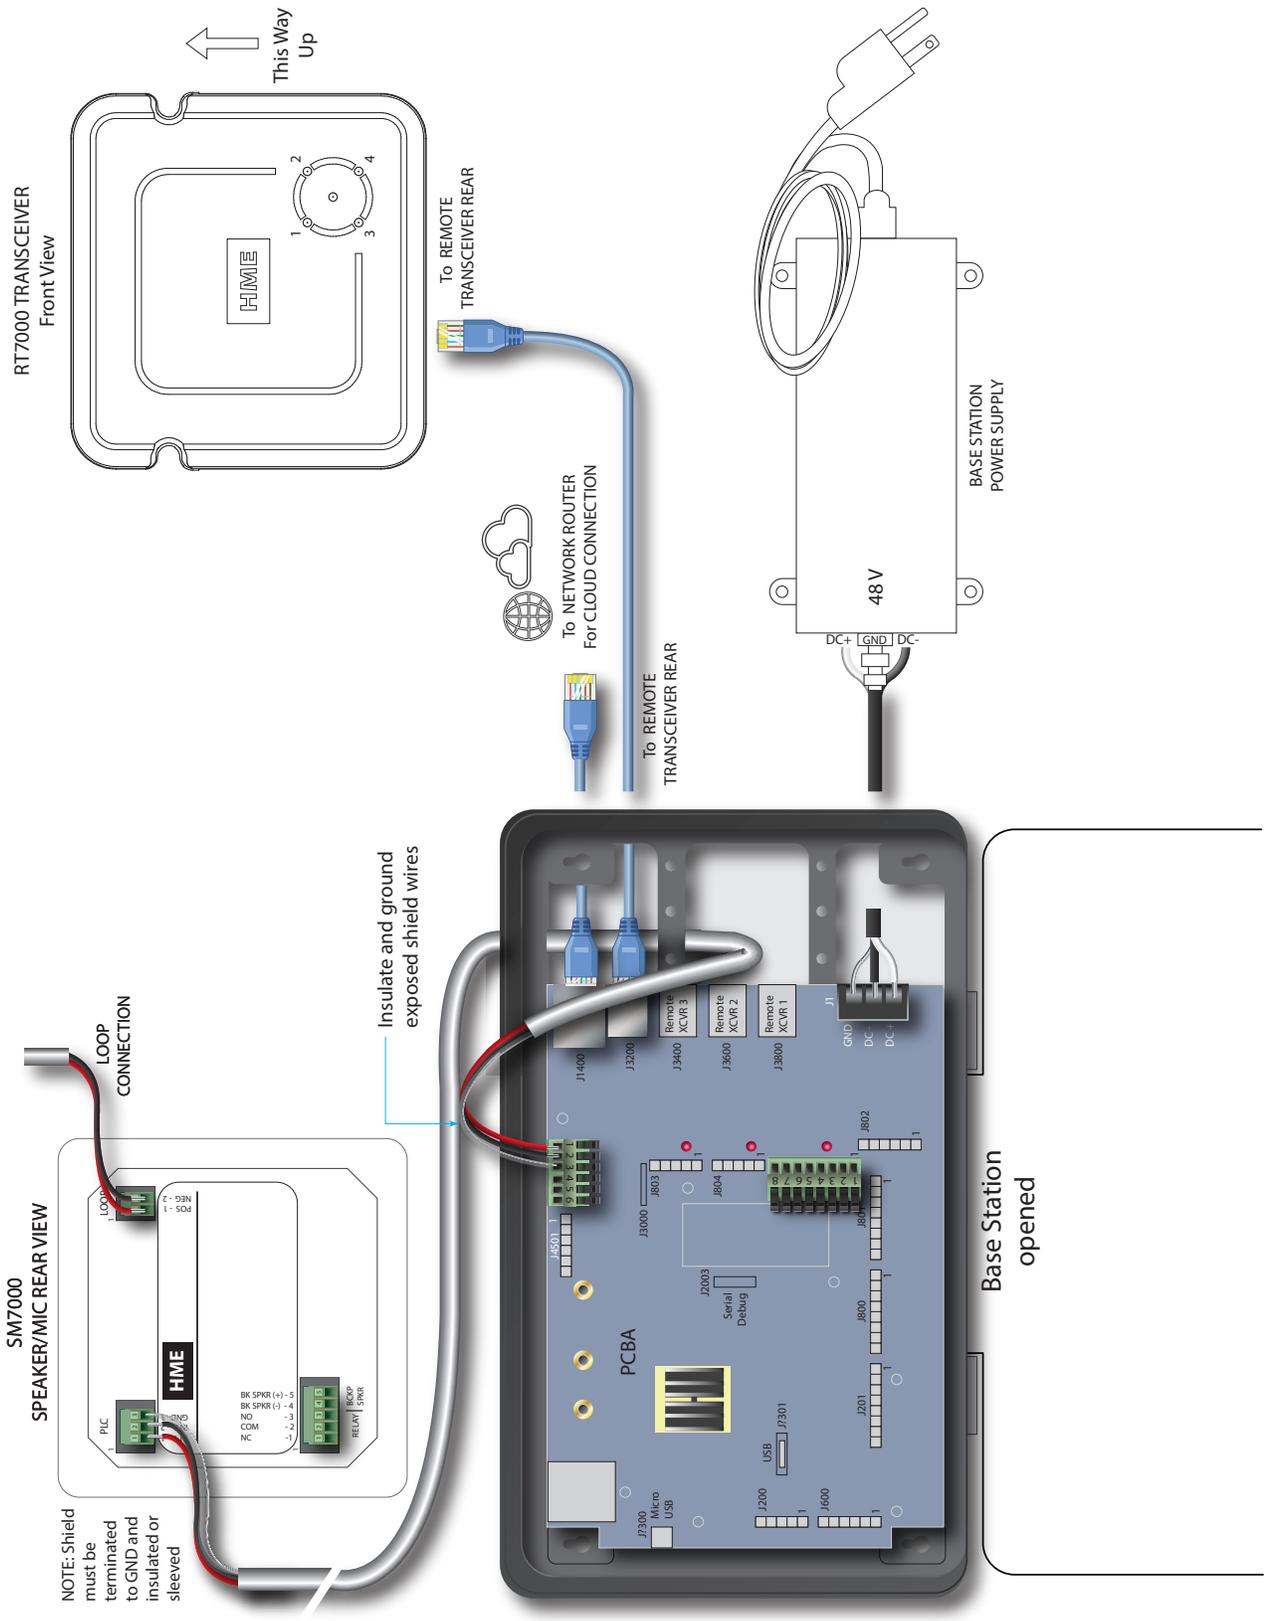

Fig. 2.12
6. Install the other components such as the post speakers, etc. If installing a new system with Speaker/Mic SM7000 use Fig. 2.12 as a wiring reference. However, if connecting a DM5 microphone and SS7000 speaker or SP10 speaker, you must also use the IB7000. Use Fig. 2.13 as a wiring reference and see "Component Notes." for more installation details.